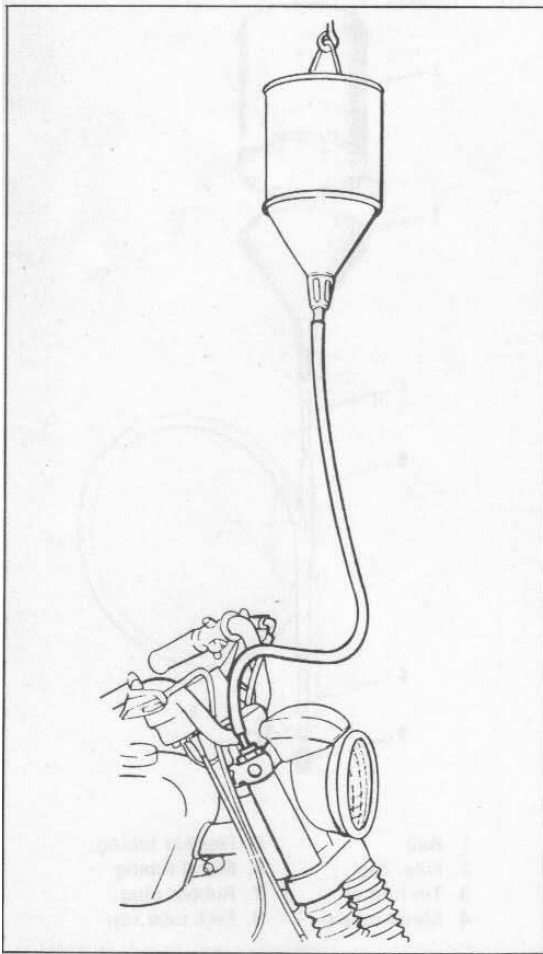

Figure 2-34. Filling Hydraulic Fork with Oil
2. Select a tin funnel (3) with the funnel mouth about the same size as the bottom of can (2). Swage and shape the funnel spout so that a piece of 1/4 in. metal tubing (4), about 2 in. long (a piece of fuel line is suitable) can be soldered into it. Solder (3) onto the bottom of (2). Improve and attach bail (1) to the filler can.
3. Make plug (7) from a rubber bottle stopper purchased from a drug store. Rubber stopper should be 1 in. to 1-1/8 in. long, and its largest diameter about 5/8 in.
5. Slightly flare one end of a piece of 1/4 in. tubing (6), about 2 in. long and insert into plug (7). Attach filler can to plug with transparent flexible tubing (5) about 2 feet long. See Figure 2-34.